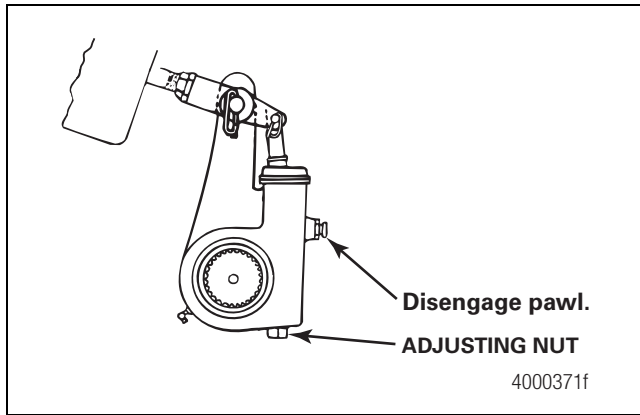

Figure 68
2. Use a wrench to turn the adjusting nut COUNTERCLOCKWISE until the brake shoes contact the drum. Figure 68. Then back off the adjusting nut in the opposite direction 1/2 turn for drum brakes or 3/4 turn for disc brakes.